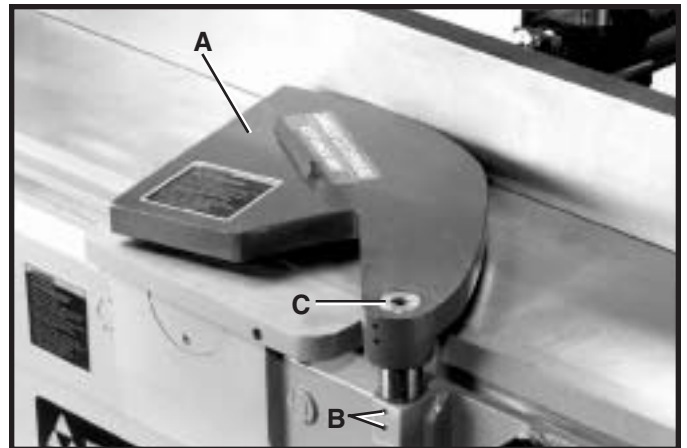

Fig. 35
The cutterhead guard (A) Fig. 35, completely covers the cutterhead. During operation the material being jointed or planed pushes the guard (A) out of the way and at the completion of the cut, the guard (A) springs back over the cutterhead providing full coverage. If it ever becomes necessary to adjust the spring tension of the cutterhead guard (A), loosen two screws (B) and turn screw (C) clockwise to increase or counterclockwise to decrease the spring tension. Then tighten the two screws (B).